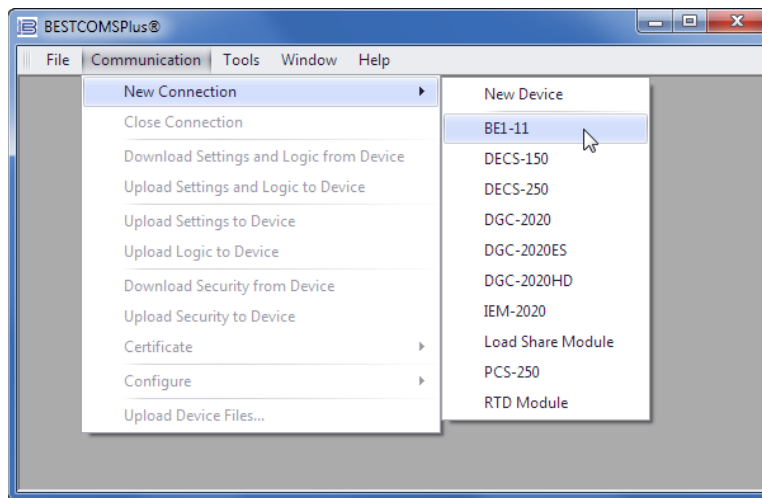

Figure 2-5. Communication Pull-Down Menu
The BESTCOMSPlus platform window opens. Select New Connection from the Communication pull-down menu and select BE1-11. See Figure 2-5.
- Step 1: Start *BESTCOMSPPlus* and select New Connection, BE1-11 from the Communication pull-down menu to connect to the BE1-11d. See Figure 2-5.